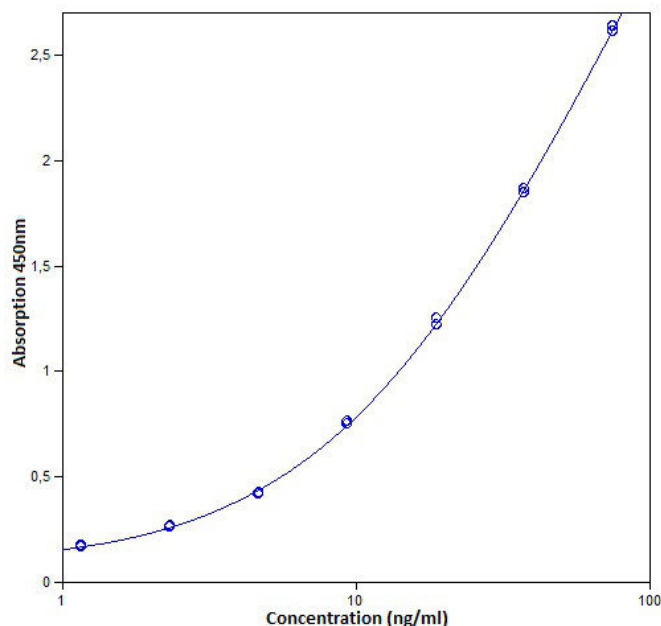

Fig. 7 Representative standard curve for human IgG2 ELISA. Human IgG2 was diluted in serial 2-fold steps in Assay Buffer (1x).
- A representative standard curve is shown in Figure 7.